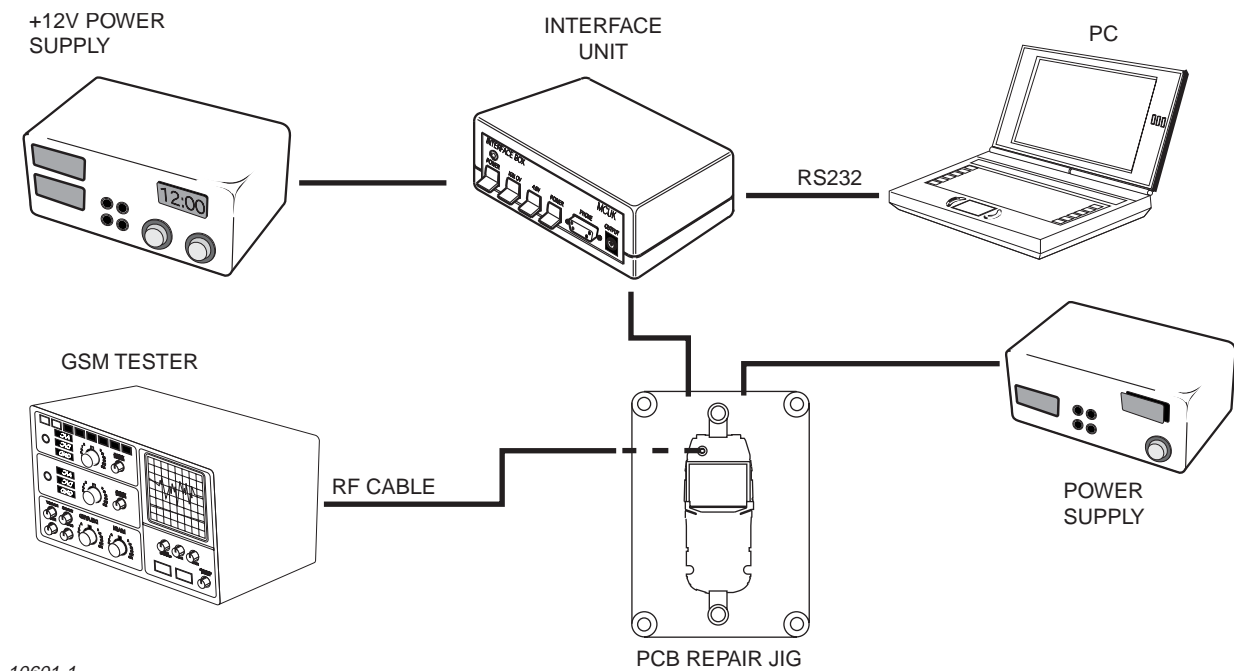

Figure 6.6: Test Connection Diagram
1. Connect the PCB and test equipment as shown in Figure 6.6: